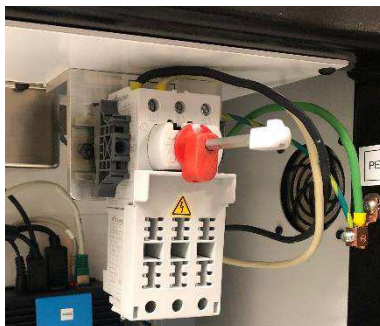

Figure 11
2. Install customer supplied 3-conductor power cord appropriate for the available voltage and current capacity (200-240VAC, single phase, 10A) by routing it through right-angle cable gland (located on the left side panel of the machine). On the inside of the machine, route cable up. Terminate ground wire to PE ground stud on machine frame. Terminate phase wires to the enclosed main power disconnect switch (see Figure 11).